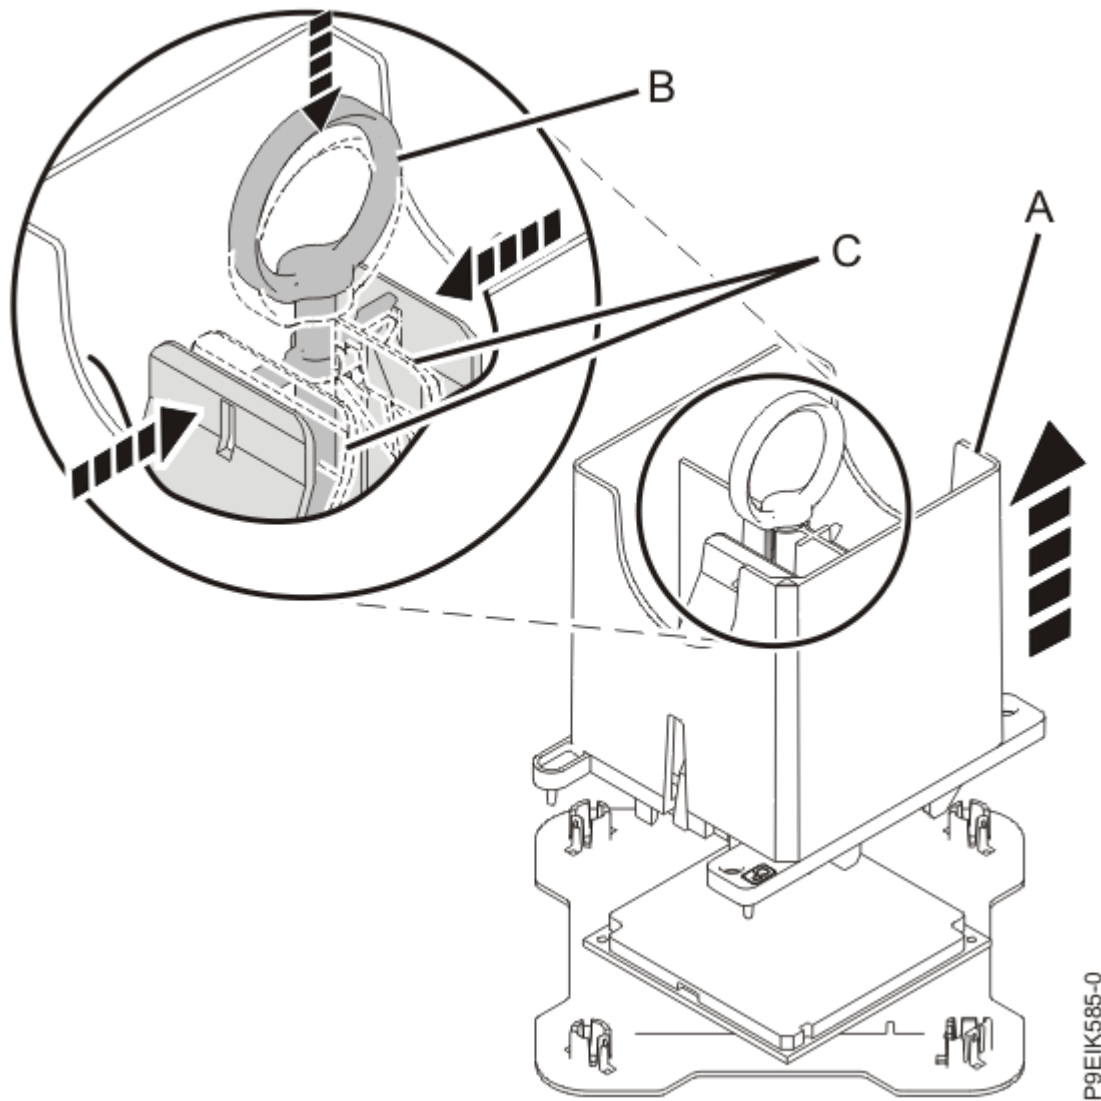

Figure 220: Releasing the system processor module from the tool
6. Release the system processor module by pushing the ring **(B)** downwards. Hold the ring **(B)** down while pushing the blue tabs **(C)** inwards as shown in Figure 220 on page 267. Ensure that the ring catches the openings on the blue tabs, and that the blue tabs are locked in a fixed position.